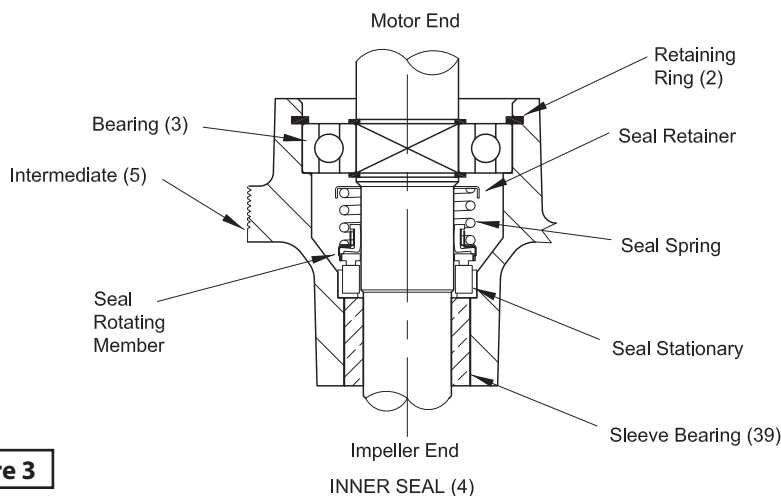

Figure 3
Bearings & Inner Seal - Remove seal (4) rotating member and spring from rotor shaft. Press stationary from intermediate (5) with flat screwdriver. Examine all seal parts. Inspect contact faces for signs of uneven wear tracks on stationary, chips and scratches on either seal face. **DO NOT interchange seal components, replace the entire shaft seal (4).** Remove retaining rings (6) from shaft. Using a wheel puller or arbor press remove bearing (3) from shaft. Remove upper motor bearing from shaft with a bearing puller. (See Figure 3)
Nothing should come in contact with the seal face except the seal tool. Be sure the stationary is in straight. Place seal's (4) retaining ring and spring over shaft until seated on shaft shoulder. Slide a bullet tool over rotor shaft threads. Lightly oil (**Do not use grease**) shaft, bullet, and inner surface of bellows on rotating member, with finished end away from motor, slide rotating member over bullet and onto shaft until it engages spring. Make sure spring is seated in retaining ring and spring is lined up on rotating member and not cocked or resting on bellows tail. (See Figure 3)